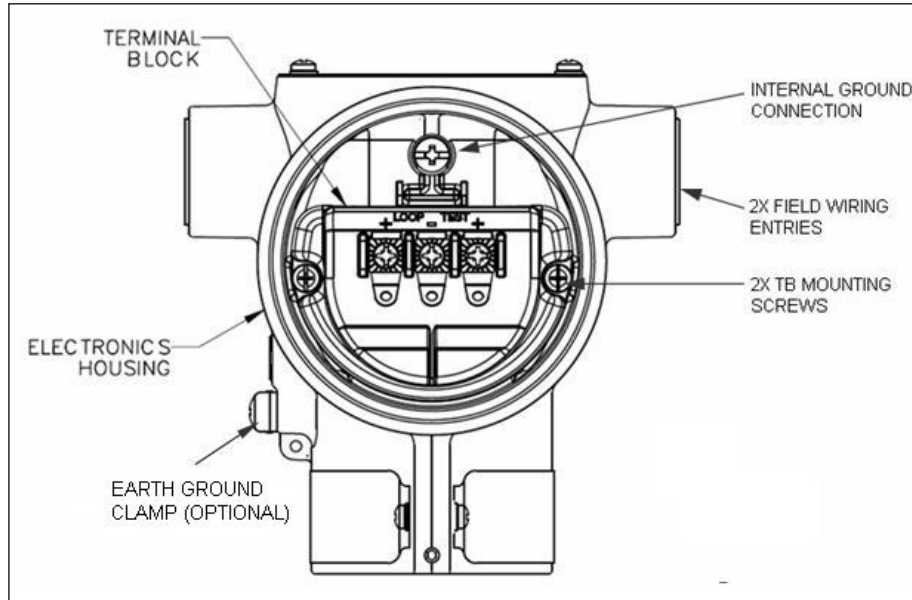

Figure 15 – Transmitter 3-Screw Terminal Board and Grounding Screw
Loop wiring is connected to the Transmitter by simply attaching the positive (+) and negative (-) loop wires to the positive (+) and negative (-) terminals on the Transmitter terminal block in the Electronics Housing shown in Figure 15.
As shown in Figure 15, each Transmitter has an internal terminal to connect it to earth ground. Optionally, a ground terminal can be added to the outside of the Electronics Housing. While it is not necessary to ground the Transmitter for proper operation, doing so tends to minimize the possible effects of noise on the output signal and affords protection against lightning and static discharge. An optional lightning terminal block can be installed in place of the non-lightning terminal block for Transmitters that will be installed in an area that is highly susceptible to lightning strikes.
1. See Figure 15, above, for parts locations. Loosen the end cap lock using a 1.5 mm Allen wrench.
If your Transmitter includes the optional lightning protection, connect a wire from the Earth Ground Clamp (see Figure 15) to Earth Ground to make the protection effective. Use a size 8 AWG or (8.37mm²) bare or green covered wire for this connection.